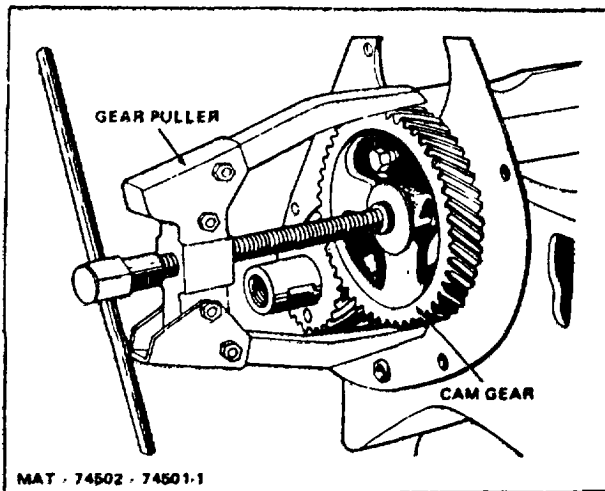

Figure 51. Removing Cam Gear with Puller
2. Using a duller, remove the cam and crank gears (Figure 51).